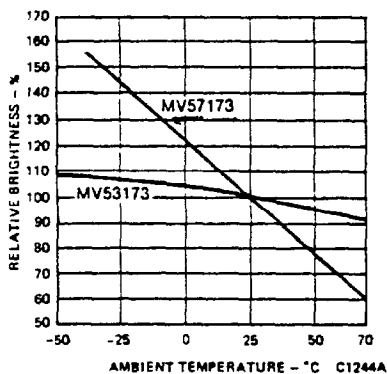

Fig. 3. Luminous Intensity vs. Temperature
2. The curve in Figure 3 is normalized to the brightness at  $25^{\circ}\text{C}$  to indicate the relative efficiency over the operating temperature range.